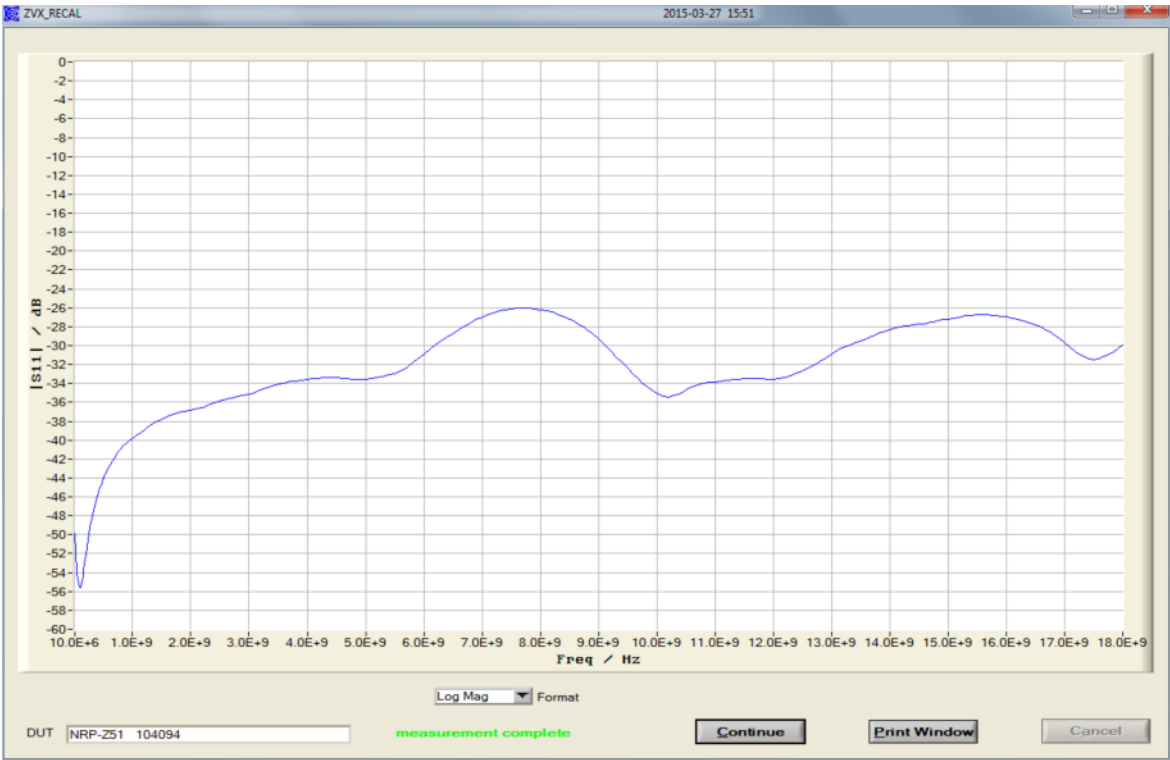

Fig. 6-8 Graphical display of the reflection measurement results
- The measurement should begin. After it is completed, the measurement result is displayed graphically (Fig. 6-8)